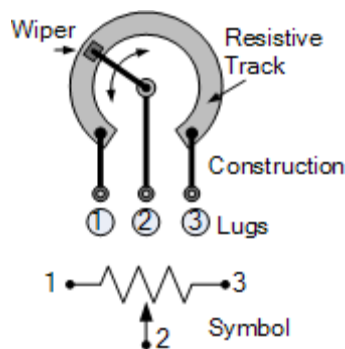

Figure 10 – Diagram of Typical Linear Potentiometer.
GPI for level control can take multiple configurations in Powersoft Quattro and Duecanali Series amplifiers. In each instance a 10kΩ linear taper potentiometer will be used for the volume control (Figure 10). Powersoft has a great option for a 10kΩ wall mount potentiometer in the WMP-Level control. A 10kΩ linear taper potentiometer has (3) components: